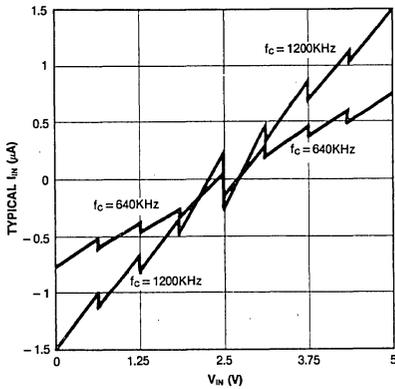

Fig. 6 Comparator  $I_{IN}$  vs  $V_{IN}$  ( $V_{CC} = V_{REF} = 5V$ )
**Note 6:** Comparator input current is a bias current into or out of the chopper stabilized comparator. The bias current varies directly with clock frequency and has little temperature dependence (Figure 6).